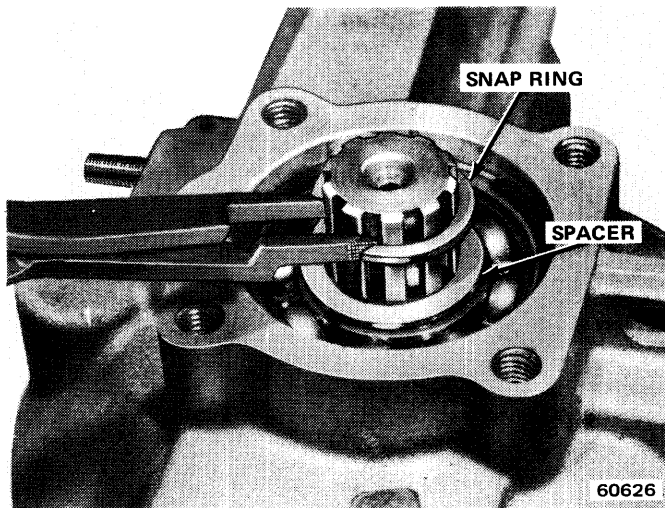

Fig. 8-25 Removing-Installing Main Shaft Snap Ring
(4) Move reduction unit control lever rearward to high range position.
(5) Remove snap ring and spacer from main shaft (fig. 8-25).